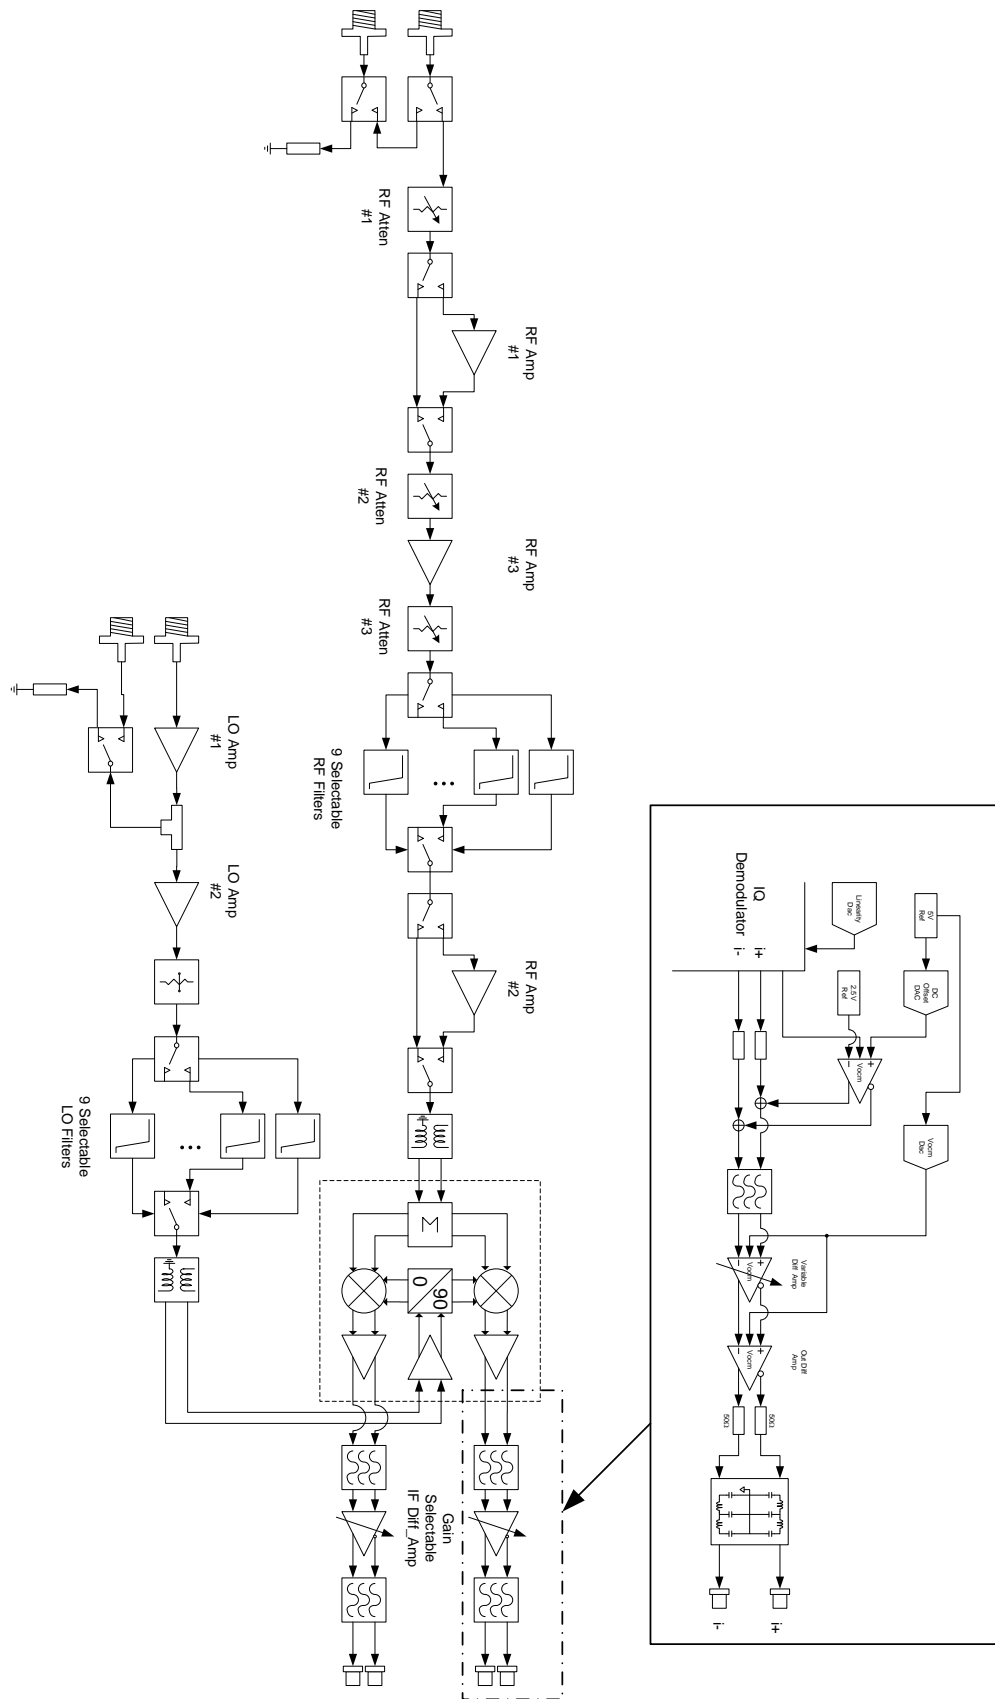

Figure 2. Simplified block diagram of the SC5313A.
The SC5313A is a single-stage, direct conversion Inphase-Quadrature (IQ) demodulating mixer, or simply an IQ demodulator. The SC5313A can operate as a single-stage downconverter or as an IQ demodulator. The SC5313A demodulator operates in the 400 MHz to 6 GHz RF range with a typical 3 dB IF bandwidth of 160 MHz in single-stage converter mode, or 320 MHz in IQ mode. The RF input stage has adjustable gain to allow the user to adjust the incoming RF signal prior to the demodulation process for the purpose of optimizing RF dynamic range. The IF stage has adjustable gain to ensure that linearity and noise of the IF output are optimized. The SC5313A has the necessary RF amplifiers, attenuators, IF amplifiers, and IF control via DACs to allow the user to optimally operate the device over the entire frequency range as well as for both small and large RF input levels. Figure 2 shows a simplified block diagram of the SC5313A, showing only the signal conditioning components critical for the following discussion. The following sections below provide more in-depth discussion on how to optimize the converter for linearity and signal-noise dynamic range. Power supply generation and regulation, and digital control functions are not covered. Should the user require more information than what is provided in this manual, please contact SignalCore.